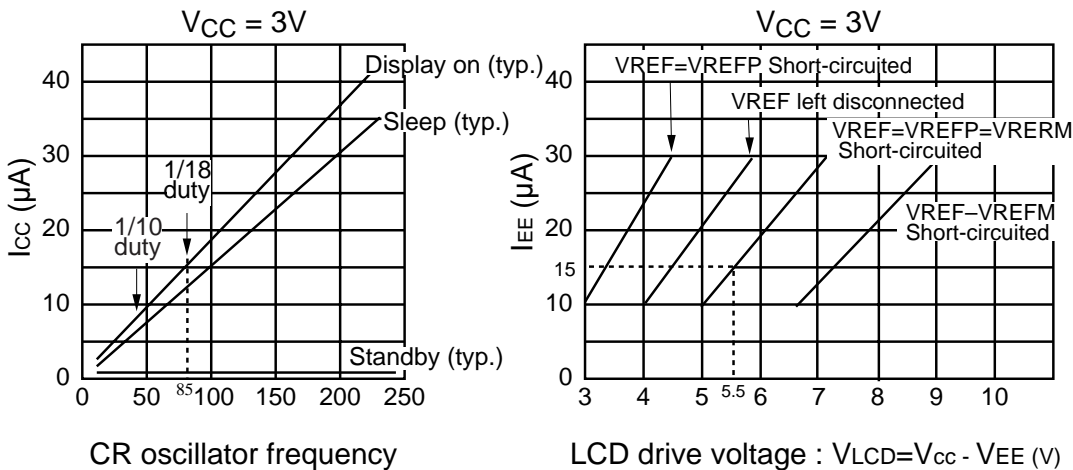

Figure 47 Relationship between the Operation Frequency and Current Consumption
11. The following shows the relationship between the operation frequency (f_{OSC}) and current consumption (I_{CC}) (Figure 47).